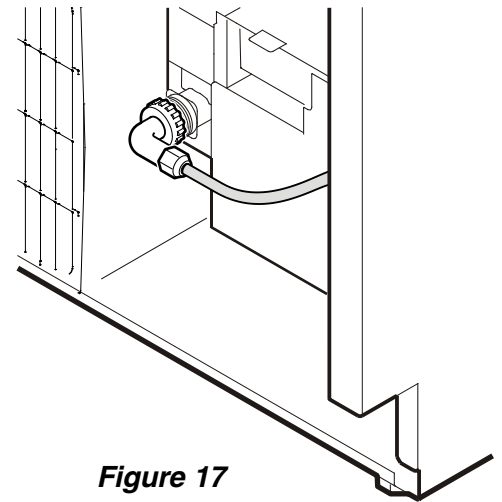

**Figure 15**
4. Push the appliance slowly to the back wall until the compressor mounting plate makes contact with the anti-tipping bracket (**Figure 15**).
To prevent the appliance from tipping forward the compressor mounting plate must have contact with the anti tipping bracket (Figure 15).